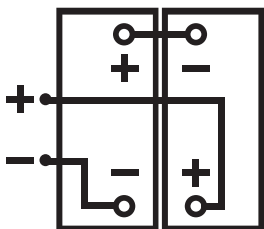

Figure 2
3. Carefully install the battery in the battery compartment, and arrange the battery terminals as shown in the figure below (Figure 2)